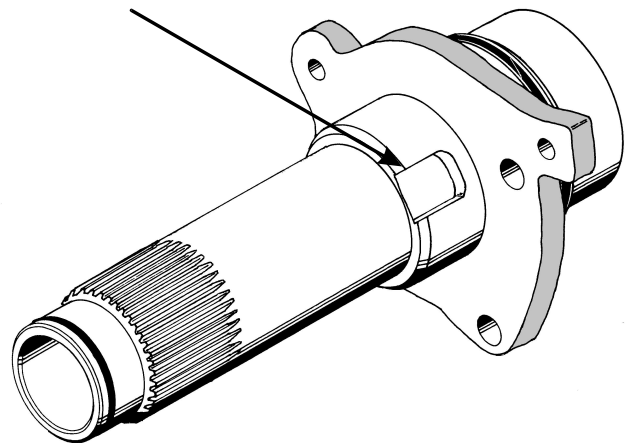

Figure 67
- (1) **89-94 MODELS** - Have a relief (Notch) cut into the *pump cover* on the inside diameter, where the stator shaft presses into the cover, creating a passage for converter apply oil to get into the "To Cooler" passage in the pump cover. Refer to Figure 67.
- (2) **95-96 MODELS** - The relief (Notch) cut in the pump cover was eliminated from the cover, and the relief (Notch) cut was added to the *stator shaft* (See Figure 67).
- (3) If for any reason, it becomes necessary to install a different stator shaft into your pump cover, you *must* ensure that you are installing compatible parts.
89-94 Model pump cover *with notch*, **MUST** be used with the stator shaft *without notch*. Refer to Figure 67.
95-96 Model pump cover *without notch*, **MUST** be used with the stator shaft *with notch*. Refer to Figure 67.
If you install a 89-94 stator shaft *without notch*, into a 95-96 pump cover *without notch* -- You will create a *totally blocked "To Cooler" passage* in the pump cover. Refer to Figure 67.